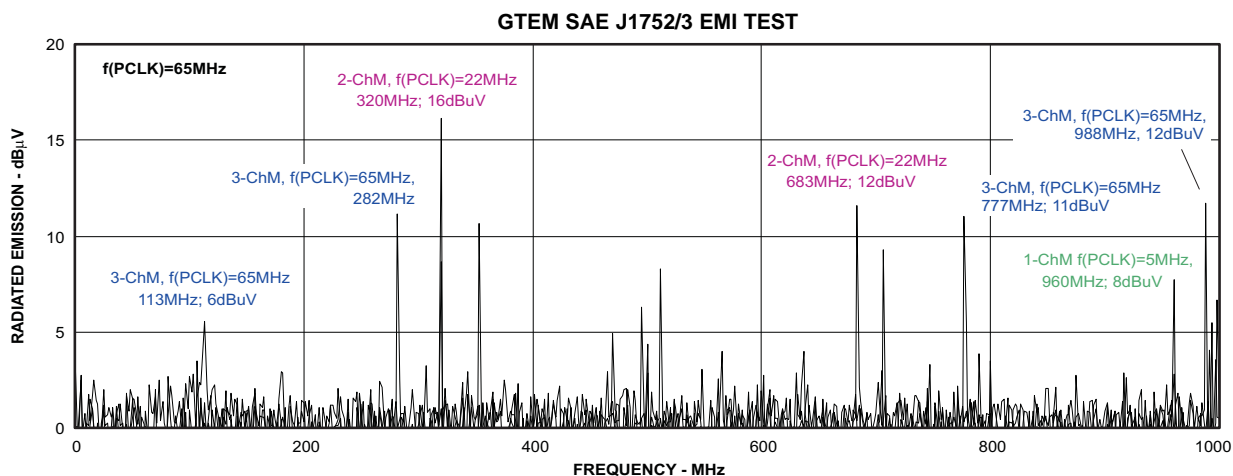

Figure 37.
- A. Figure 37 shows a superimposed image of three EMI measurements with the device operating at $f(\text{PCLK}) = 5 \text{ MHz}$, $f(\text{PCLK}) = 22 \text{ MHz}$, and $f(\text{PCLK}) = 65 \text{ MHz}$. This excellent EMI performance meets the system requirements of dense, mobile designs with a noise floor of $\sim 2 \text{ dB}\mu\text{V}$ ($\sim 105 \text{ dBm}$) and all spurs being smaller than $16 \text{ dB}\mu\text{V}$ ($\sim 101 \text{ dBm}$). The test was performed in compliance with the SAE J1752/3 EMI test guidelines.